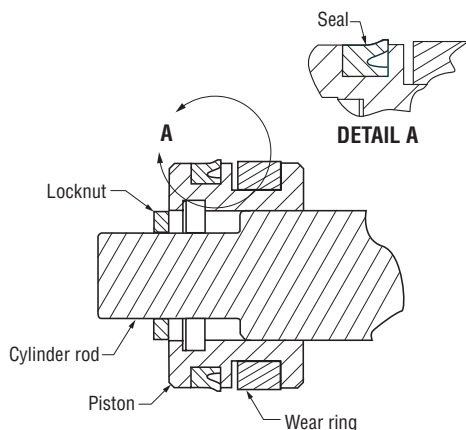

Figure 5-7 Piston Seal
- Note the direction of the seal on the piston. Improper installation will result in poor performance. The cupped side or O-ring side of the seal should be facing the gland cap. (Figure 5-7)